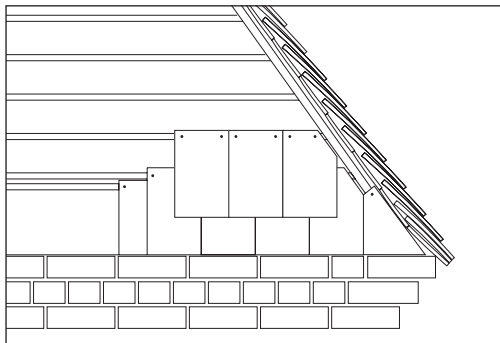

Fig 84 – Cut tile to meet rake of verge
- Form raking cuts using tile-and-a-half tiles as necessary (Fig 84).